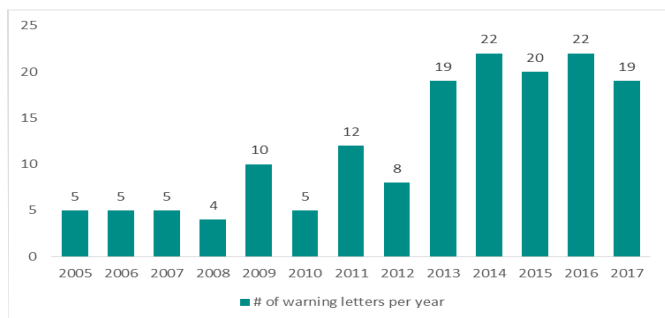

Figure 1. Number of data integrity violations over the last years.
Recent news about various Data Integrity violations revealed by governing bodies has created much attention and has raised concern within companies operating active in regulated environments. Figure 1 shows the increase in violations of data integrity aspects during cGMP (current good manufacturing practice) inspections. (1)